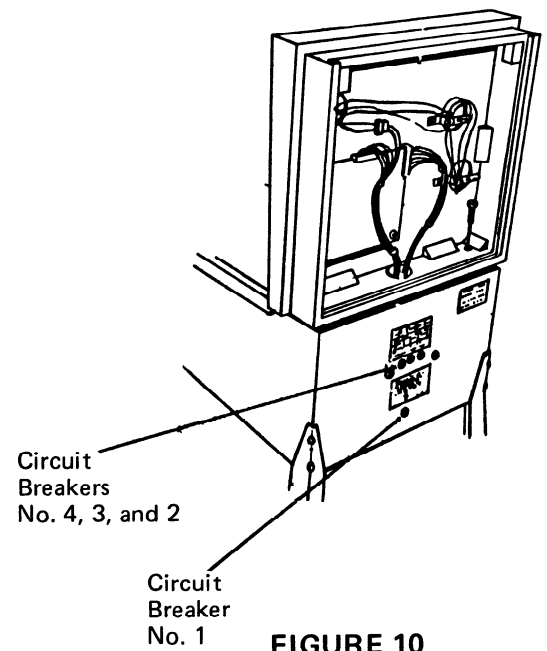

FIGURE 10
4. Reset Circuit Breaker No. 1 by pressing the appropriate red stem (inside the back panel at rear of cabinet) with the eraser end of a pencil (see Figure 10).